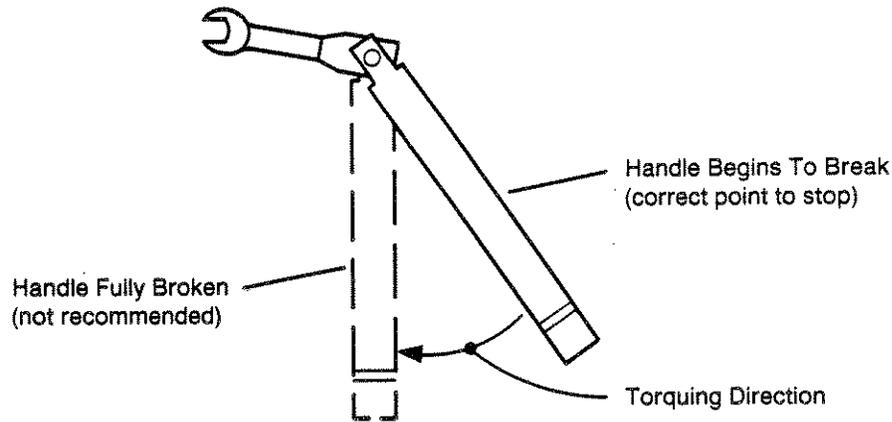

Figure 3-2. Using the Torque Wrench
3. Tighten the connection until the ball in the handle crests on the cam (as the handle begins to break). It is not recommended or necessary to "fully break" the handle of the torque wrench to reach the specified torque (Figure 3-2).